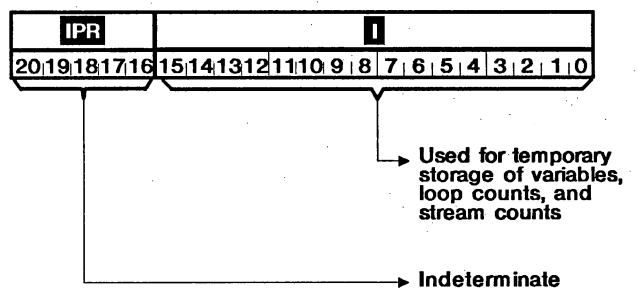

FIGURE 12. RETURN STACK (I and IPR) BIT FIELD ASSIGNMENTS
I: The **Index Register** contains 16 bits of the 21-bit top element of the Return Stack, and is also used to hold the count for streamed and loop instructions (see Figure 12). In addition, **I** can be used to hold data and can be written from **TOP**. The contents of **I** may be accessed in either the push/pop mode in which values are moved to/from stack memory as required, or in the read/write mode in which the stack memory is not affected. When the Streamed Instruction Mode is used, a value (count) is written to **I** and the next instruction is executed that number of times plus one (i.e. n+1).
IPR : The Index Page Register extends the Index Register (IR) by 5 bits, i.e. when a Return From Subroutine is performed, the IPR contains the Code page from which the subroutine was called, and comprises the 5 most significant bits of the top element of the Return Stack. See Figure 12.
The bit fields of the Return Stack take on different assignments, depending upon whether the processor is performing a subroutine operation, as indicated in Figure 12.